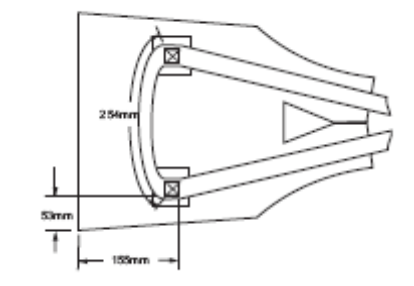

Figure A.5 – Collar attachment on collar cover
3.2.2.1 Attach the yellow collar attachment webbing (component 3.6) to the inside collar cover (component 1.5), placing one reinforcement patch (component 1.6) under the fabric, with a tack on each side, as in figure A.5. The webbing should be centred on the fabric, creating a 254 mm loop measured from the edge of one tack to the edge of the other.